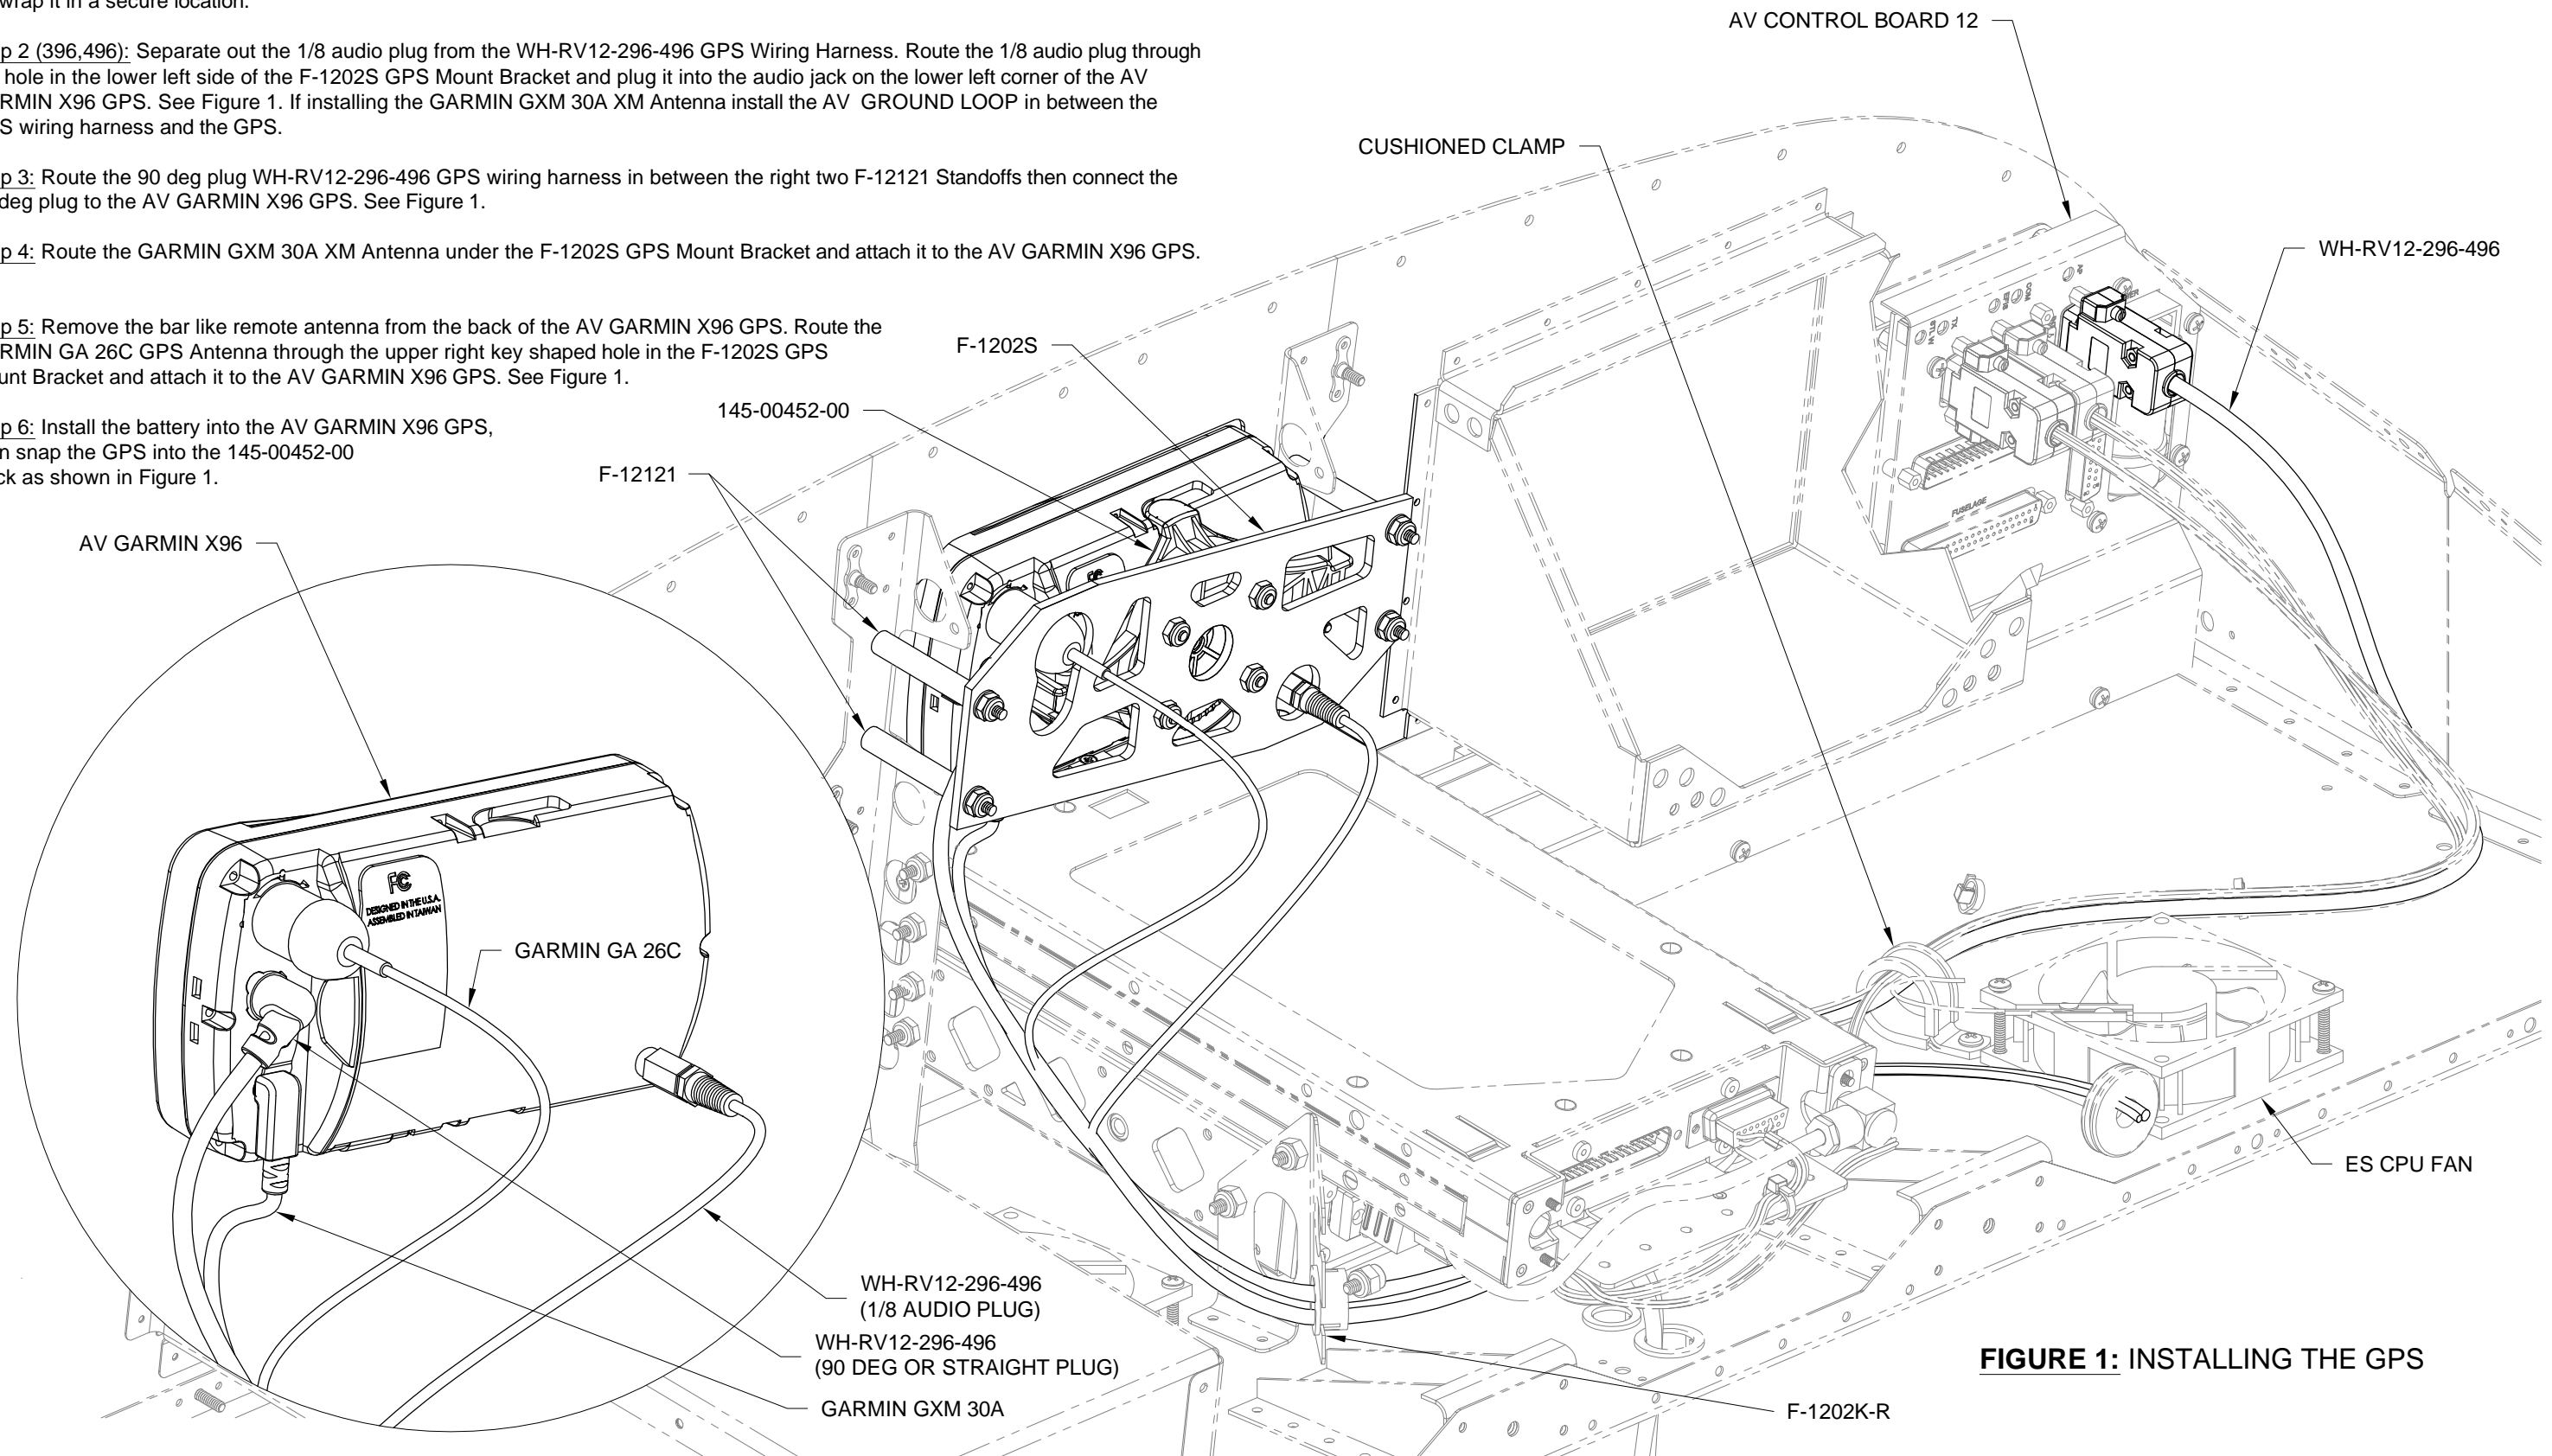

FIGURE 1: INSTALLING THE GPS
Step 5: Remove the bar like remote antenna from the back of the AV GARMIN X96 GPS. Route the GARMIN GA 26C GPS Antenna through the upper right key shaped hole in the F-1202S GPS Mount Bracket and attach it to the AV GARMIN X96 GPS. See Figure 1.
Step 6: Install the battery into the AV GARMIN X96 GPS, then snap the GPS into the 145-00452-00 Dock as shown in Figure 1.